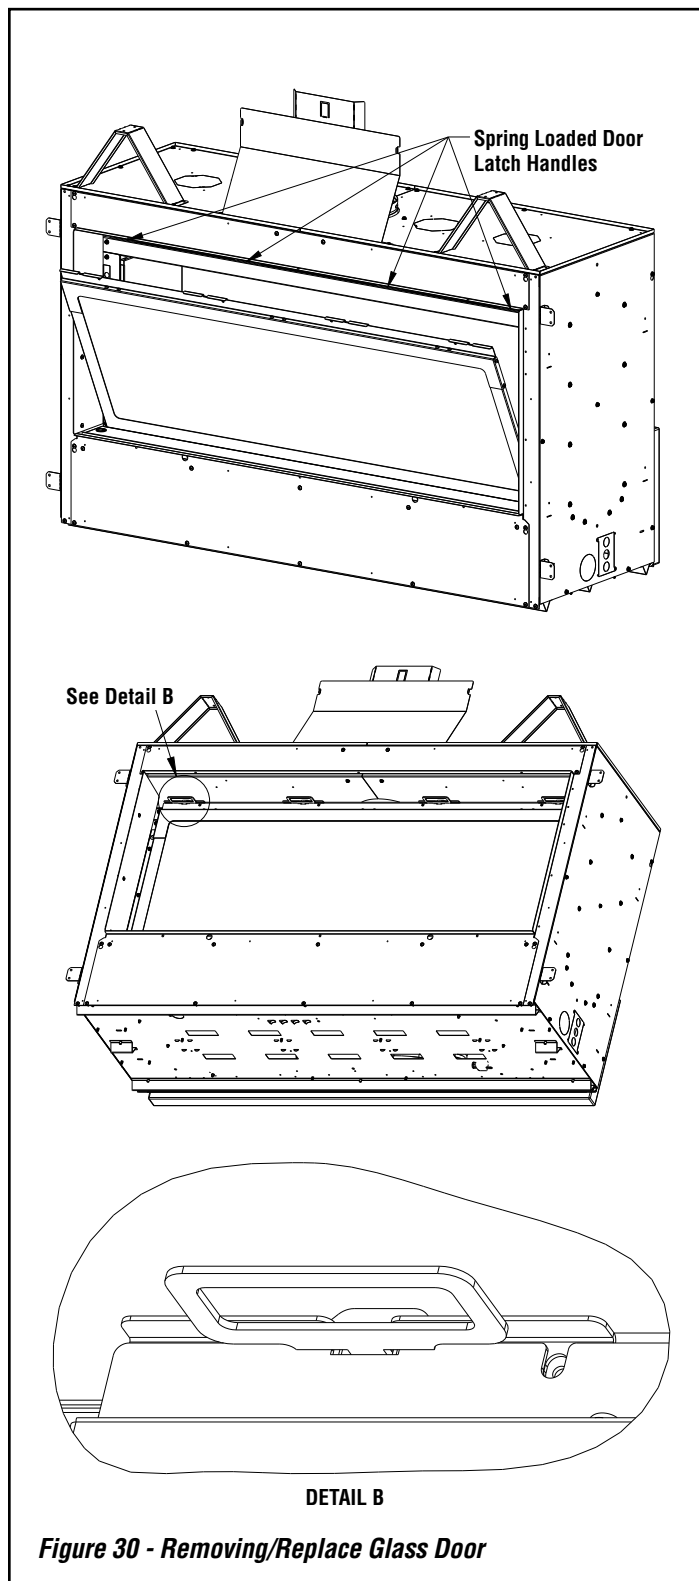

Figure 30 - Removing/Replace Glass Door
3. Tilt open glass door about 15° from the top of the firebox and lift up to release door from retaining channel (*see Figure 30*).
1. Position door frame in front of firebox opening tilting top of door about 15° toward you. Insert bottom flange of glass door into the retaining channel at the bottom of firebox (*see Figure 30*). Make sure door is center with firebox opening.